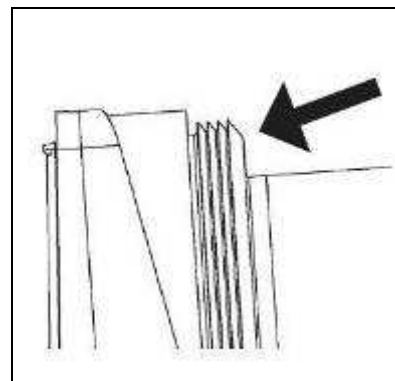

Fig. 24
- Mount the bowl seal (T) making sure it faces the right direction (fig.24).
- Assemble the scraper auger (U), making sure the head is perfectly engages with the driving shaft.
- Secure all the parts into place by screwing the bolt (S) in a counter clockwise direction.